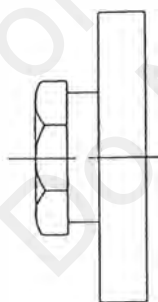
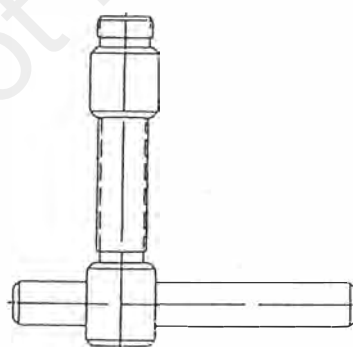

Fig. 6-11
Fig. 6-12
- 6.4.4.5 Before mounting the grinding wheel on the wheel spindle, first wipe the extracting hole of the wheel flange and extraction base on the wheel spindle clean and then use your hand to push the grinding wheel onto the extractor on the wheel spindle. After this, tighten the nuts on the grinding wheel positioning screws (see Fig. 6-11). To detach the wheel flange, use the grinding wheel extraction tool (see Fig. 6-12).